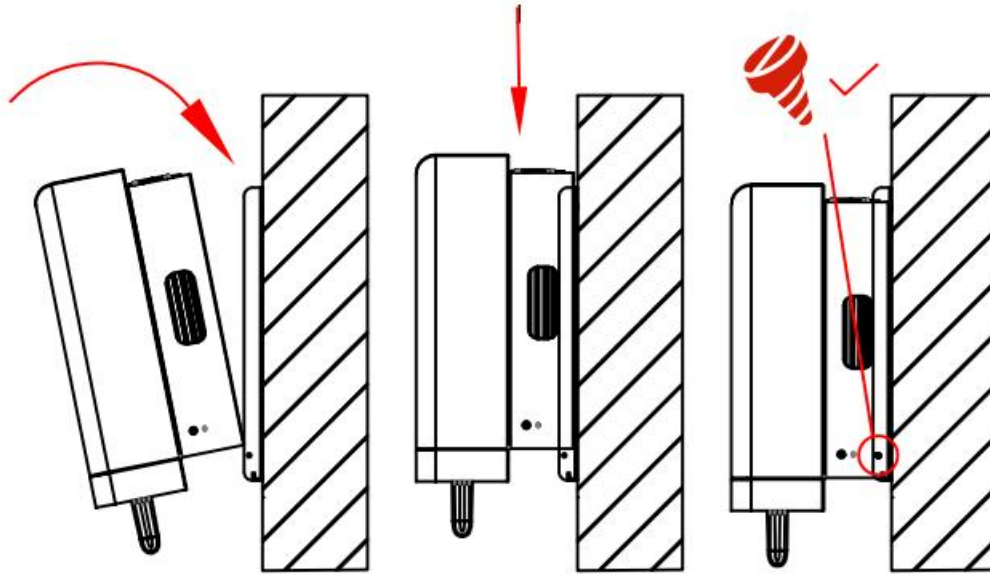

Figure 4-6
Step 4: Hang the inverter correctly on the wall hanging bracket and install the fixing screws, refer to Figure 4-6